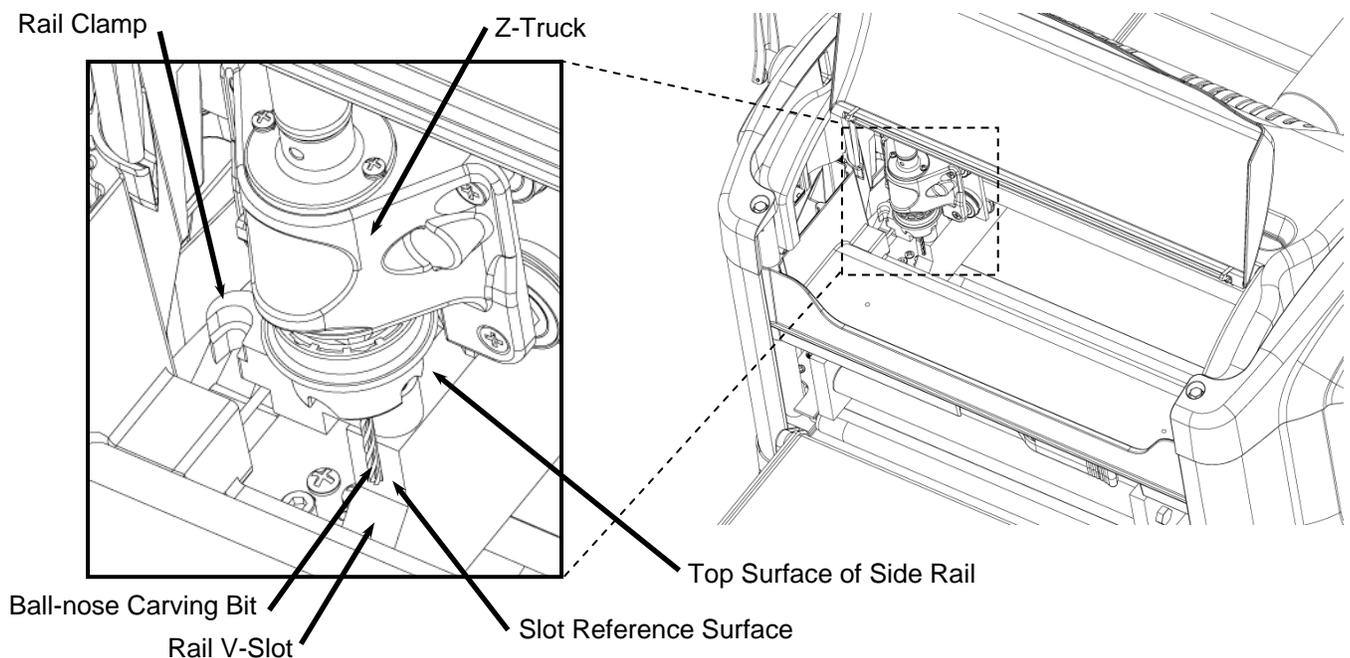

FIGURE 4: LINING UP THE BIT TO THE JIG ON THE LEFT SIDE
8. **Adjust the squaring plate adjustment pin.** Based on the determination of offset in Step 6 above, the adjustment pin (Figure 4) will be rotated in either a clockwise or counterclockwise direction. Before beginning, make sure to record and/or mark the current location of the squaring plate alignment pin arrow relative to the marks on the plate.